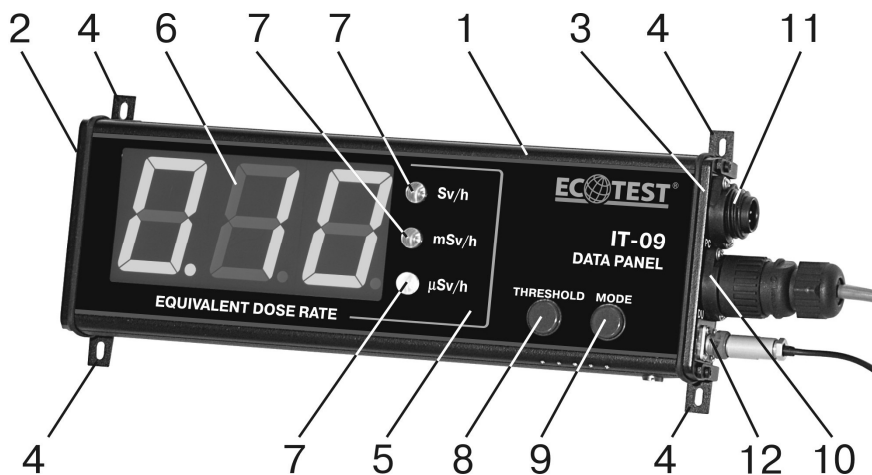

Figure 1 – External view of the panel
1.4.1.1 The external view of the panel and components of its delivery kit is presented in figures 1, 2 and 3. The panel (according to Figure 1) is designed as a steel dust- and dampproof housing. Ingress protection rating is IP51. All digital and LED indicators and control buttons are located on its front panel.
1.4.2.1 The housing of the panel (Figure 1) consists of the tubular profile (1) and two covers: left (2) and right one (3). Four brackets (4) are provided to mount the panel on a vertical plane.